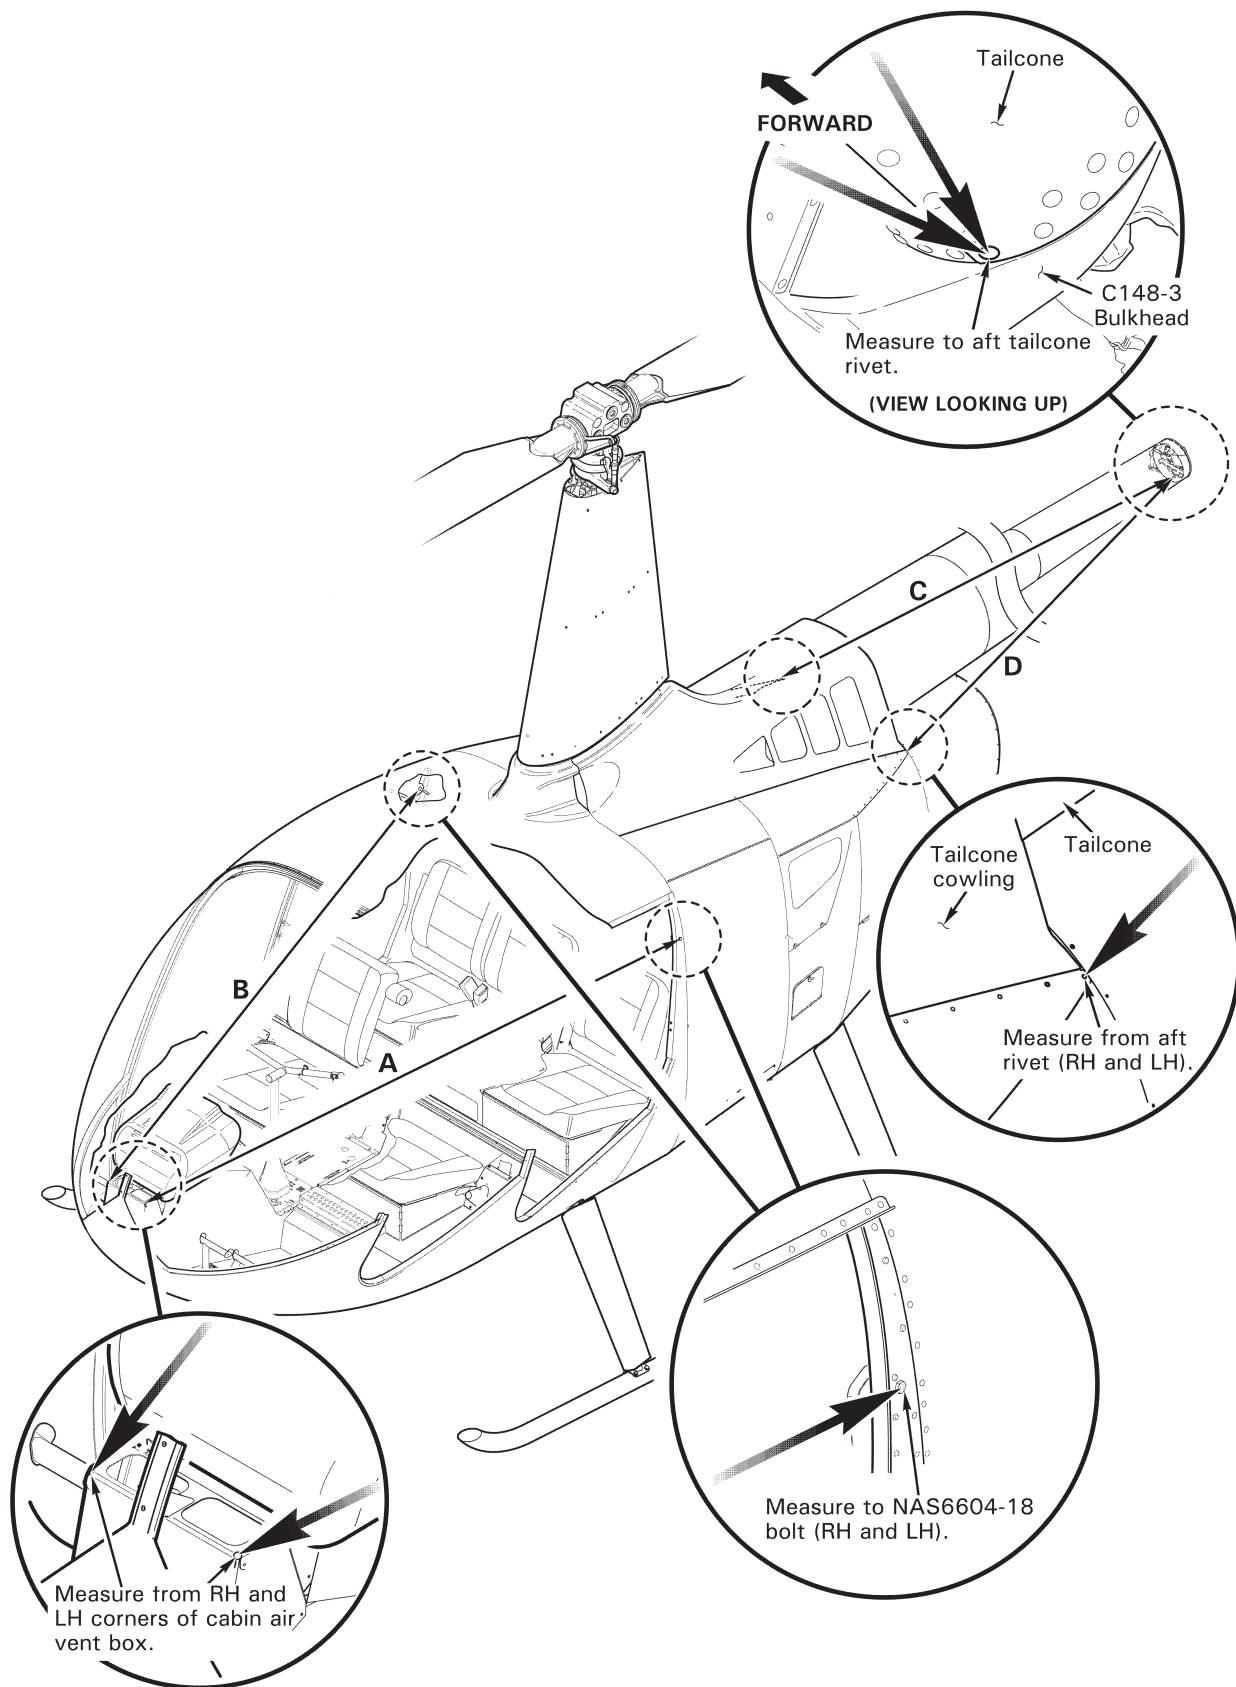

FIGURE 5-6 SYMMETRY CHECK
- i. Check for symmetry if there is evidence of buckling of the cabin assembly per Figure 5-6. Position helicopter on a hard, level surface with the weight of the helicopter settled on the skids. Measure and record distances of lines A, B, C, and D. Verify the difference between lines A & B is not more than 0.30 inch and the difference between lines C & D is not more than 0.40 inch. If the difference between lines A & B or C & D is greater than the limits given, the cabin assembly must be returned to RHC for repair.